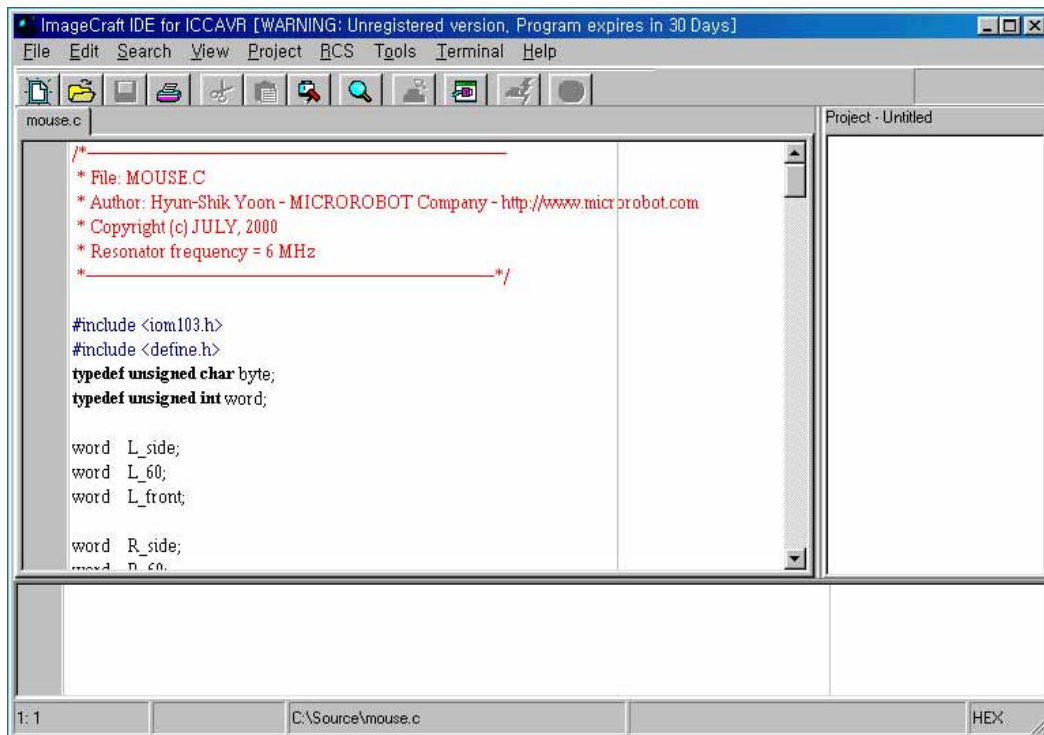

Fig 3.4
② Click File → Open or  icon. Open c:\source\mouse.c . (Fig 3.4)